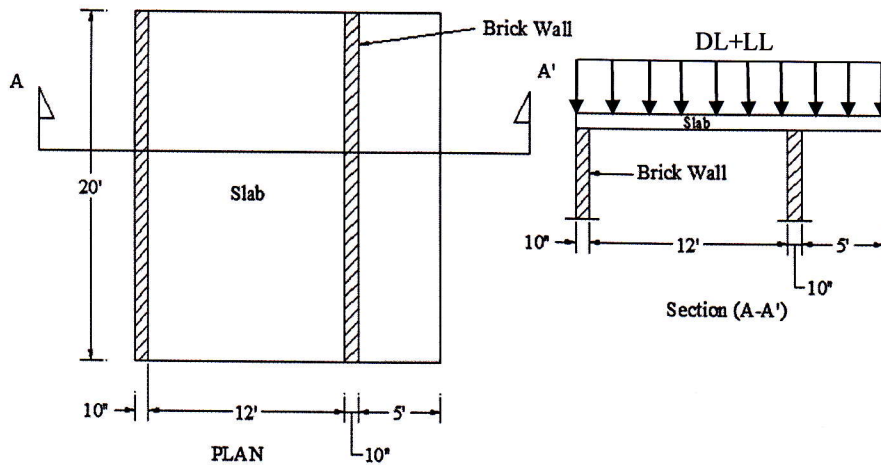

Figure 7
8. A 6 in. thick one way slab is supported by brick walls as shown in Figure 7. The slab is subjected to a calculated dead load of 125 psf and working live load of 95 psf. Compute the critical design moments in the slab and show the necessary reinforcements in sketches. Follow the USD method. Given,  $f'_c = 4$  ksi,  $f_y = 60$  ksi. (10)